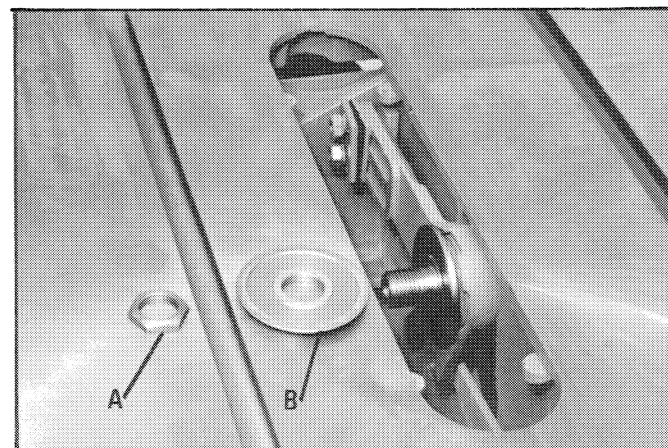

Fig. 22
1. Remove arbor nut (A) and blade flange (B) from saw arbor, as shown in Fig. 22.